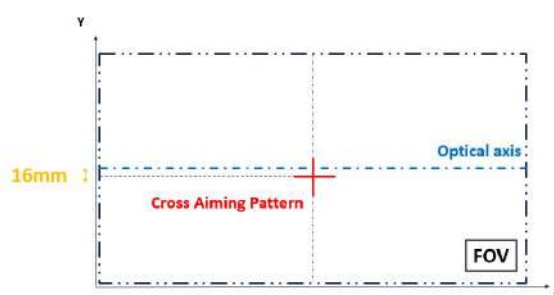

Figure 8 - Cross Laser Pattern
4. Place the **Grade A Barcode Test Chart** in front of the reader at the correct reading distance for your application (see the Global FOV Diagrams, starting on page 119 for reference). **The center of the cross is 16 mm (14 LEDs model) or 30 mm (36 LEDs model) under the optical axis, as shown in Figure 8.**